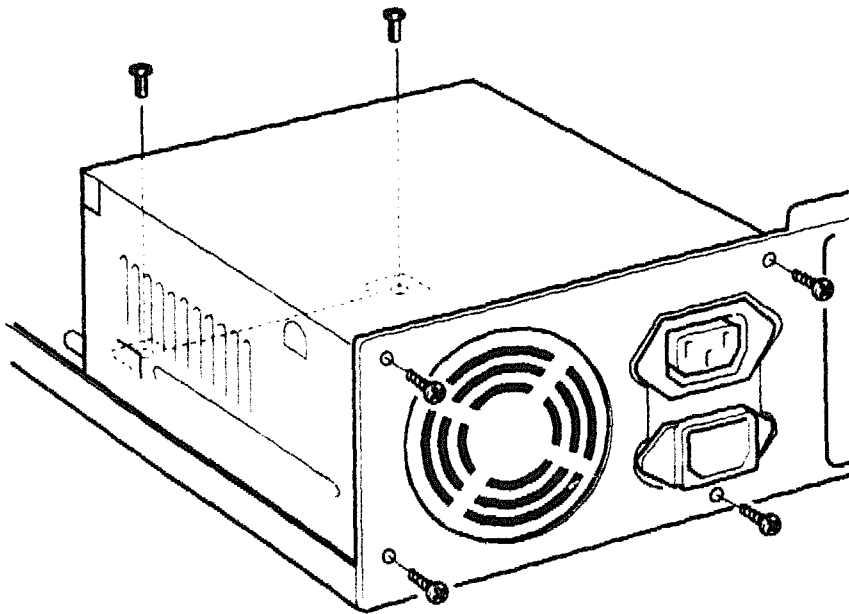

Figure 3-42 - Positioning the PSU
2. Carefully place the PSU into the computer's chassis with the power socket facing the rear of the computer and tighten the six securing screws (Figure 3-42).